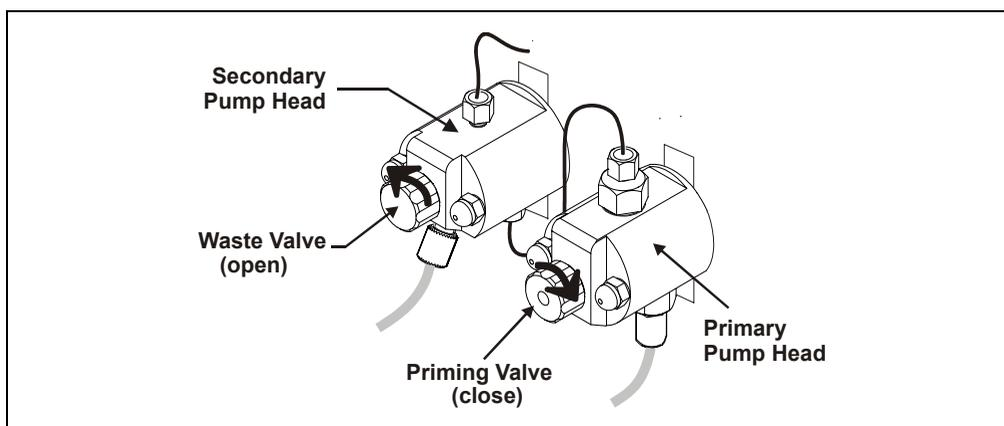

Figure B-25. Priming the Pump
1. Check that the priming valve on the primary pump head is closed (see Figure B-25).
2. Open the waste valve on the secondary pump head by turning the knob one-quarter to one-half turn counterclockwise (see Figure B-25). Opening the valve directs the eluent flow path to waste and eliminates backpressure.